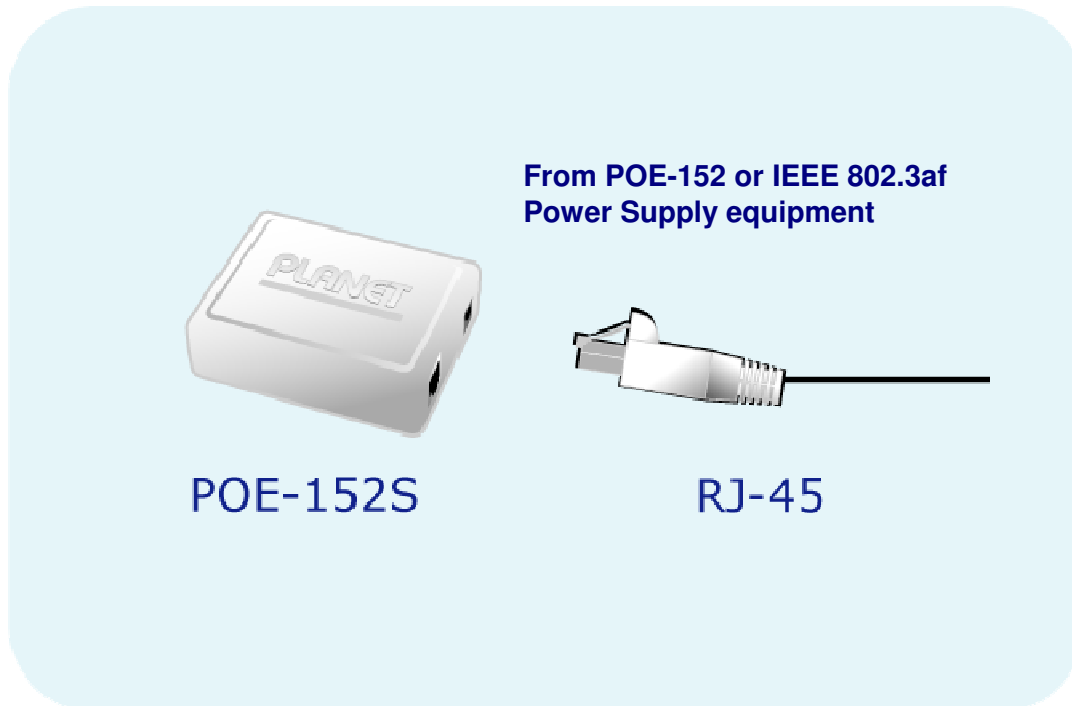

Figure 1: Connection to POE-152 or IEEE 802.3af POE equipment
1. Connect a standard network cable from “Ethernet+DC” of POE-152 to “Ethernet+DC” of POE-152S. The POE LED of POE-152 / POE-152S will light on continuance. The screen in Figure 1 appears.